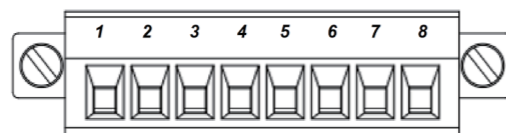

Figure 5-28
- 4) Connect two On-Grid three-phase inverters (Figure 5-28): The local address needs to be set as "001" on the inverter screen, and meter1 address set as "001", meter2 address set as "002", and meter3 address set as "003". The address of meter1 itself needs to be set to "001", meter2 needs to be set to "002", and meter3 needs to be set to "003".